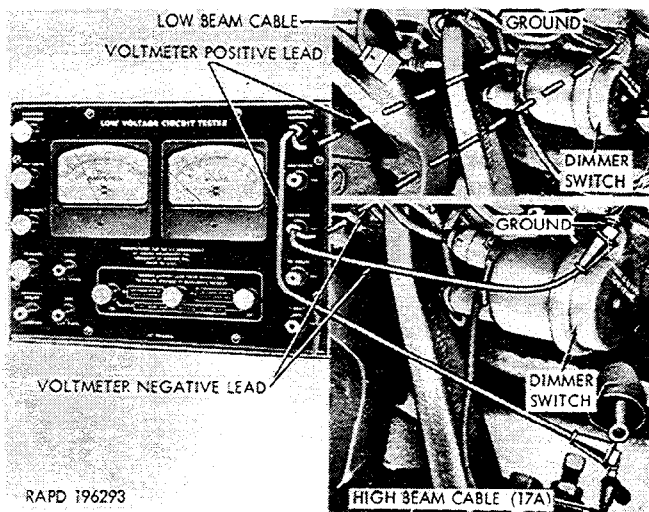

Figure 2-40. Checking for current through dimmer switch.
(2) *Dimmer switch faulty.* Check for current through the dimmer switch, using the low voltage circuit tester (fig. 2-40).